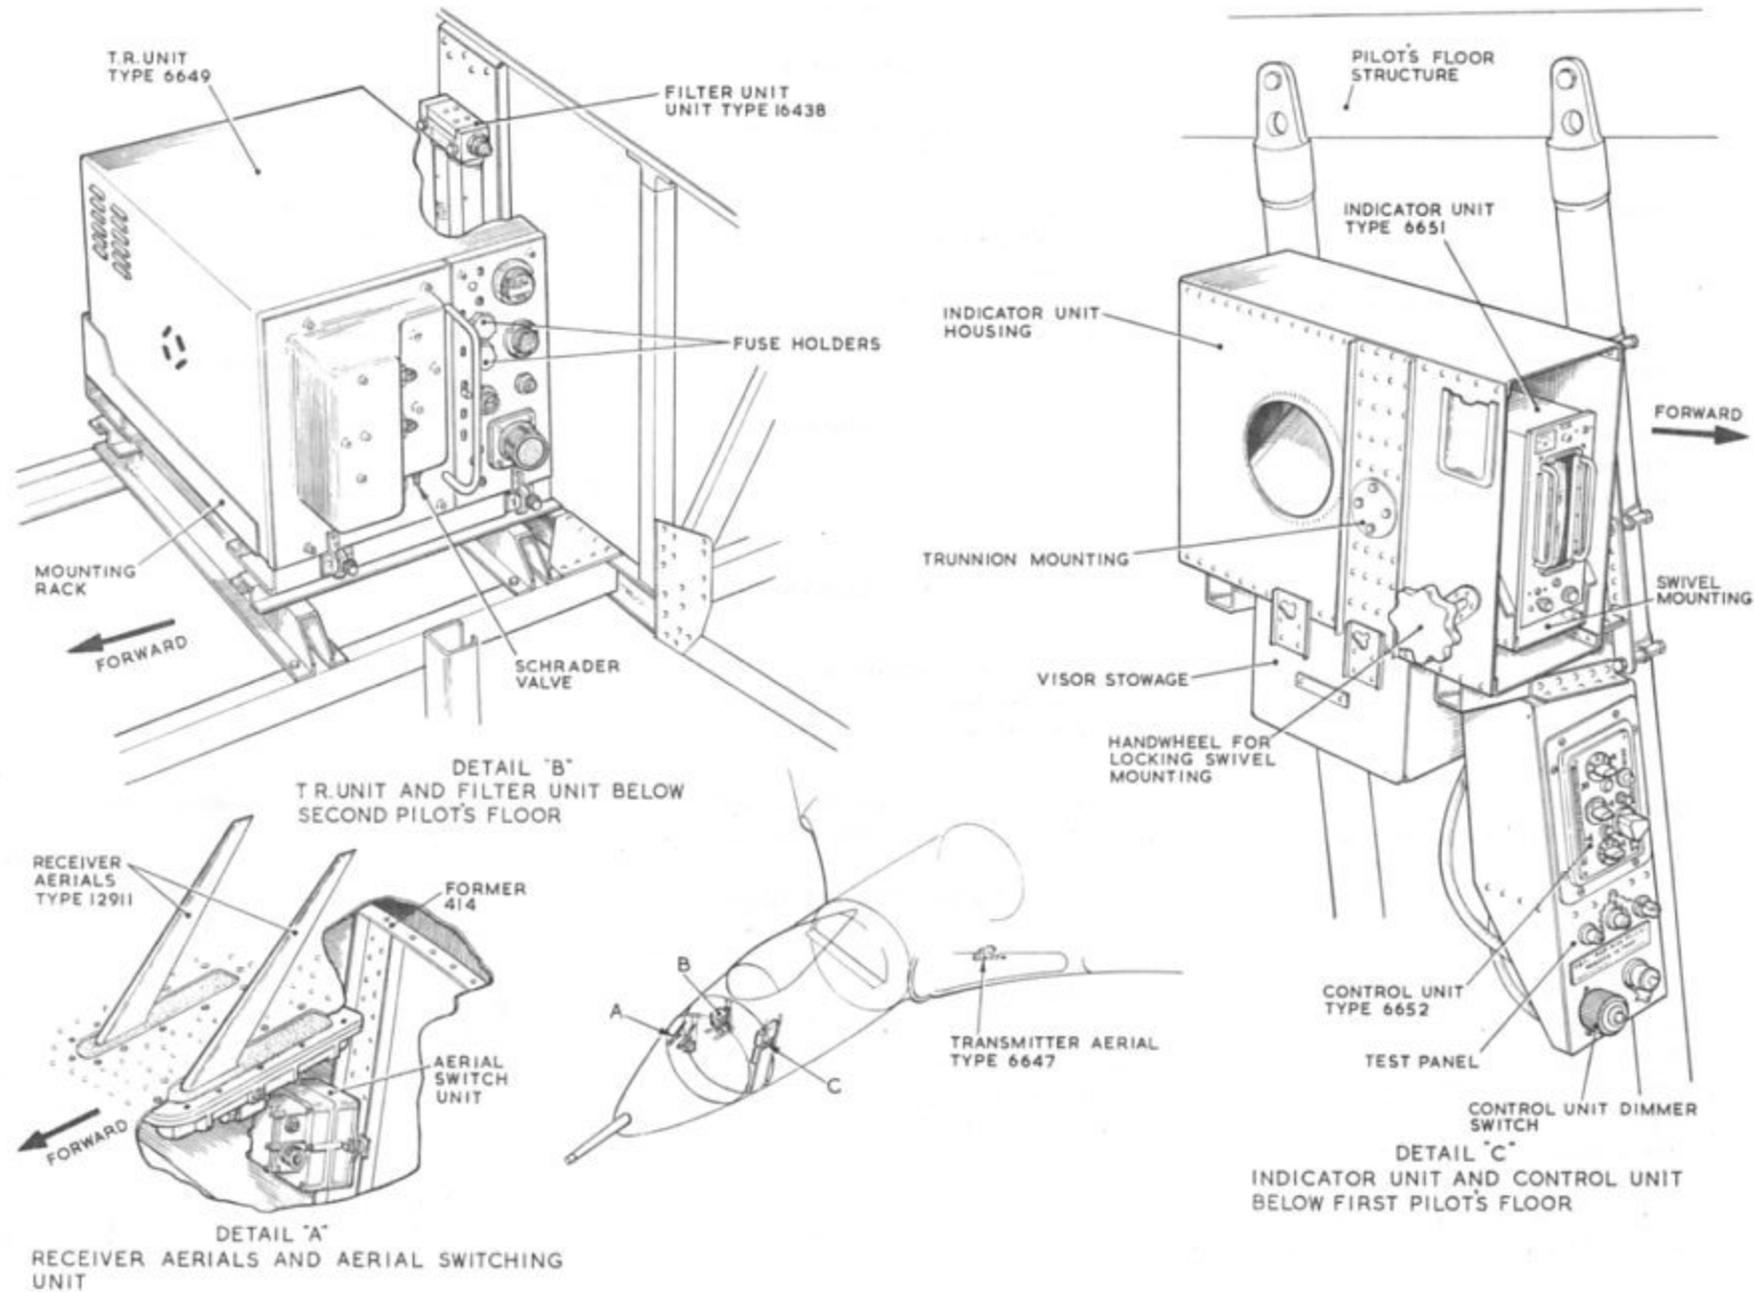

Fig.1 Location of components
3. The main units of the installation are shown in fig.1 and described briefly in the paragraphs that follow. For more detailed information reference should be made to A.P.2914 AN, Vol.1.
4. The T.R. unit is mounted below the second pilots' floor as shown in fig.1.
10. The Type 6647 transmitter aerial is of modified shark fin design and is mounted on the underside of the aircraft centre section, as shown in fig.1.
11. The two Type 12911 receiver aeriels are of modified shark fin design and are mounted side by side on top of the aircraft nose structure, as shown in fig.1.